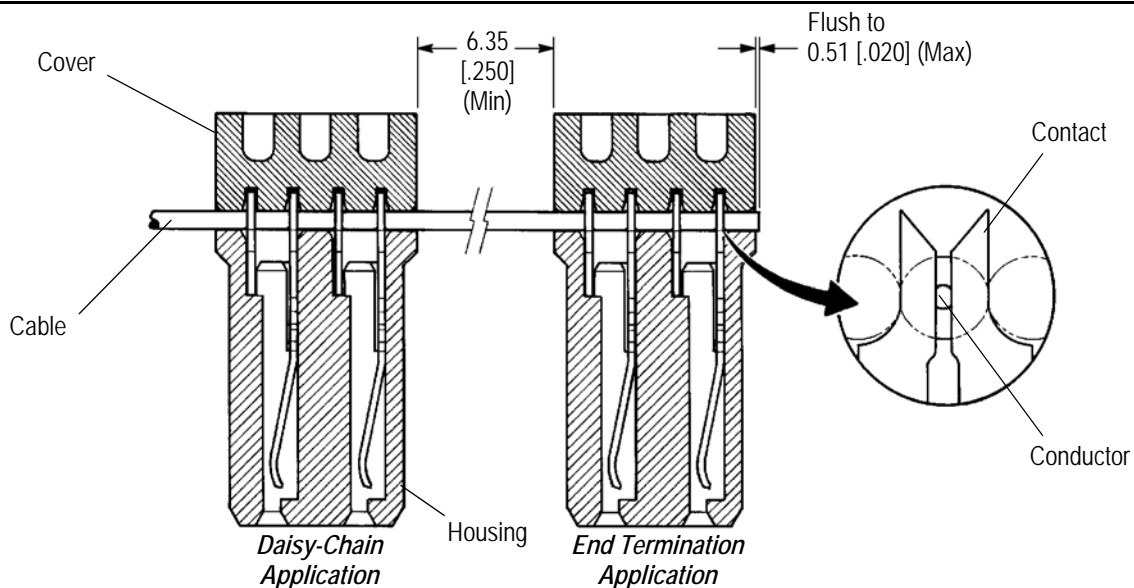

Figure 3
The receptacle connectors are pre-assembled including a pre-positioned cover for end terminations or daisy-chain applications, as shown in Figure 3.
1. The cable must be properly positioned between the cover and the housing, as shown in Figure 3.